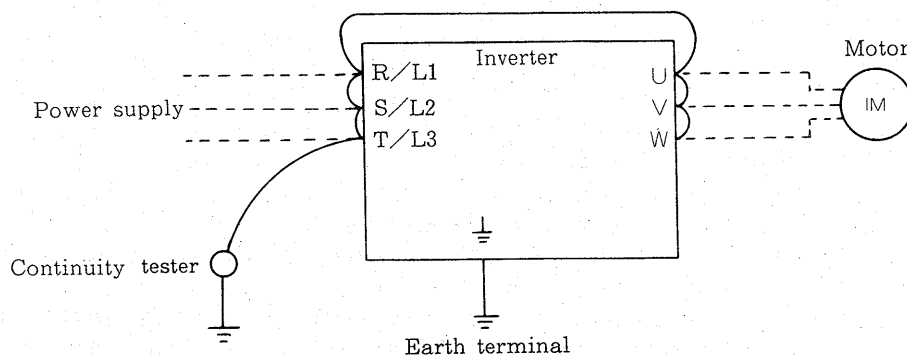

Fig. 6 Insulation Resistance Test
(3) Insulation resistance test
- (b) Conduct the insulation resistance test on the inverter main circuit only as shown in Fig. 6 and do not perform the test on the control circuit.